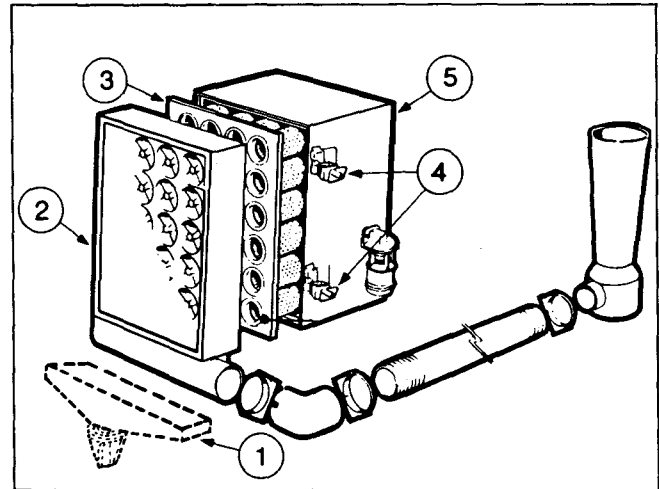

Fig. 2-13, (N21026). Air cleaner — cartridge type (two stage)
1. Loosen wing nuts (4, Fig. 2-13 or 2-14) on air cleaner housing (5) to remove pre-cleaner panel with dust bin (1). To remove pre-cleaner panel (2) equipped with exhaust aspirator loosen "U" bolt clamp securing pre-cleaner to aspirator tubing.
2. To install a new cartridge, hold cartridge (3, Fig. 2-13, and 2-14) in same manner as when removing from housing. Insert clean cartridge into housing; avoid hitting cartridge tubes against sealing flange on edges of air cleaner housing.
4. Replace pre-cleaner panel (2) and tighten wing nuts (4) by hand, for final tightness turn 1-1/2 to 2 turns with a small adjustable wrench. Do not overtighten. On pre-cleaner with exhaust aspirator, assemble aspirator tube to pre-cleaner panel and tighten "U" bolt.